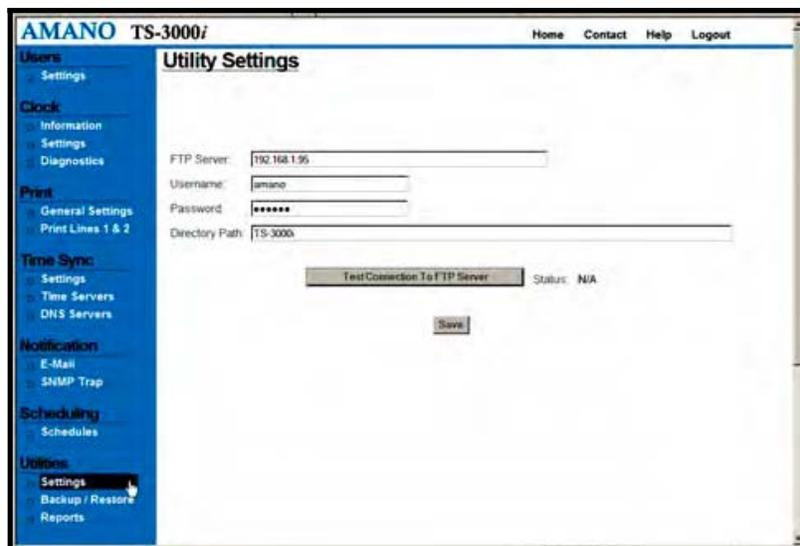

Figure 4-22: Utility Settings (FTP Server)
- Step 1.** Click on the **Settings** link under Utilities and the **Utility Settings** screen for FTP will appear (see *Figure 4-22*).
Step 4. Click on the  button to perform the Backup and the status will appear once the operation has been completed. The transaction file will be stored at the same location (path) previously entered for the FTP Server (see *Figure 4-22*). The configuration file will also be stored in the same location but in a binary format with a filename which correlates to the clock and ending in “_ATVSTrans.txt”.